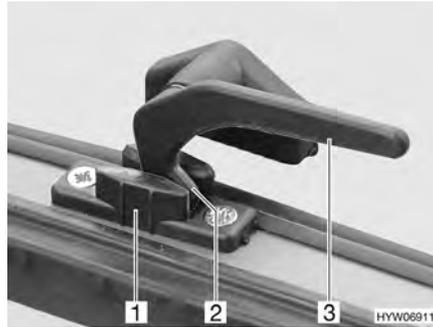

Fig. 56 Catch lever in the "continuous ventilation" position
- "Continuous ventilation" (Fig. 56)
- Turn the catch lever (Fig. 56,3) a quarter turn towards the centre of the window.
- Return the catch lever to its initial position. The locking catch (Fig. 56,2) has to be moved into the recess of window catch (Fig. 56,1).